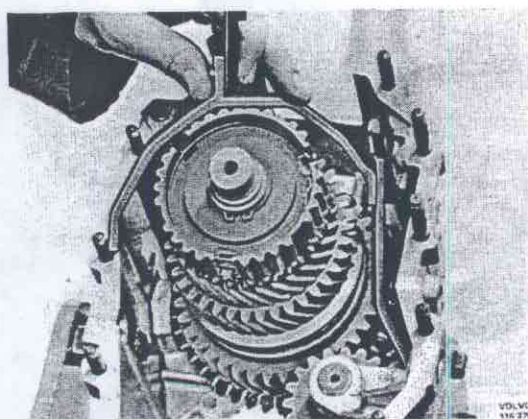

Fig. 43-107. Fitting selector fork
8. Fit the output shaft and selector fork for reverse gear, Fig. 43-107, and the selector fork for 1st-2nd engaging sleeve.